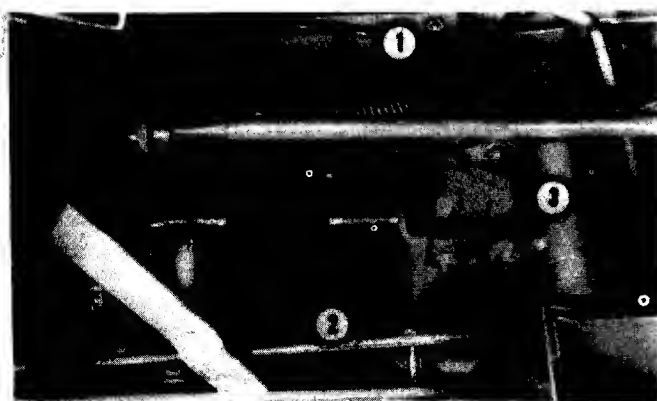

FIG. 4.15-GEARBOX RETAINING BOLT
b. Install bolts and tighten securely. Fig. 4.15.